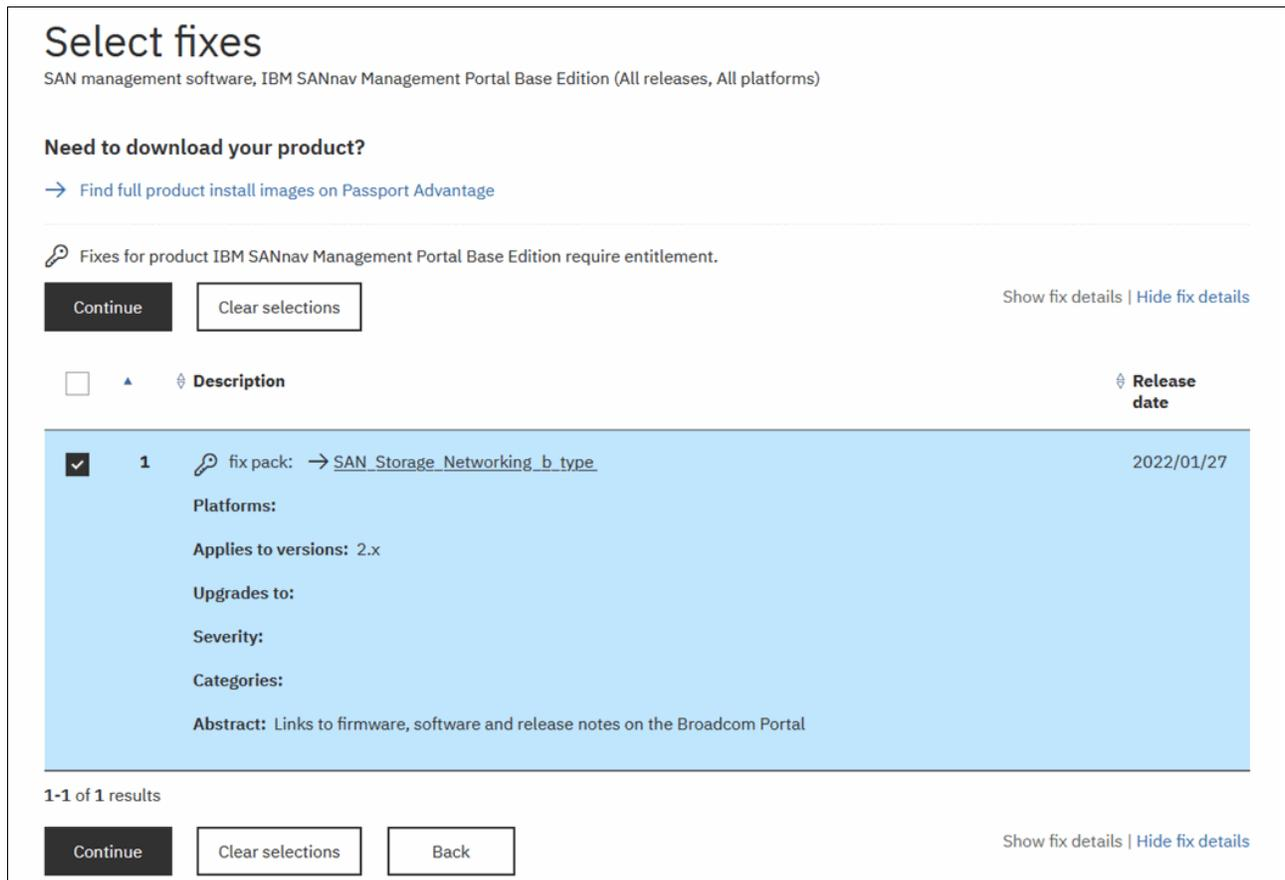

Figure 2-6 Selecting a fix pack on Fix Central
5. Under Select fixes, choose the **SAN Storage Networking b type** fix pack, as shown in Figure 2-6.